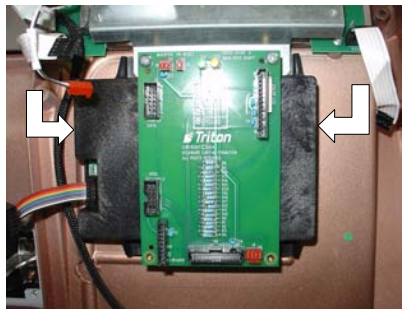

Figure 6. Install SPED adapter and connect function key cables.
9. Install the 96XX SPED adapter PCB on the four (4) brass standoffs and secure with the screws previously removed in step 4 (Figure 6).
10. Connect the two (2) Function keypad cables to the sides of the EPP device (Figure 6).